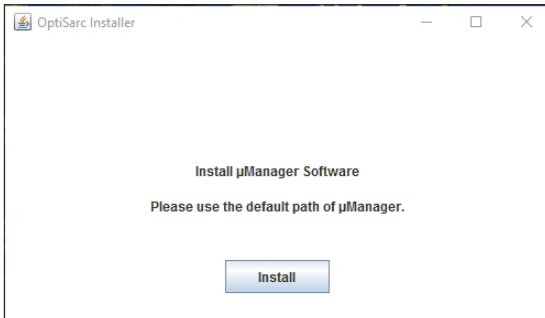

Fig. 6—Click **Install** to begin the installation of the μ Manager Software and ImageJ.
4. To install the μ Manager software, click **Install** and follow the instructions on screen. For best results, do not change the default installation directory. When the installation is complete, μ Manager opens. Close the μ Manager program. Then, click **Next** on the **OptiSarc Installer** window. The **OptiSarc Plugin installer** appears (Fig. 6).